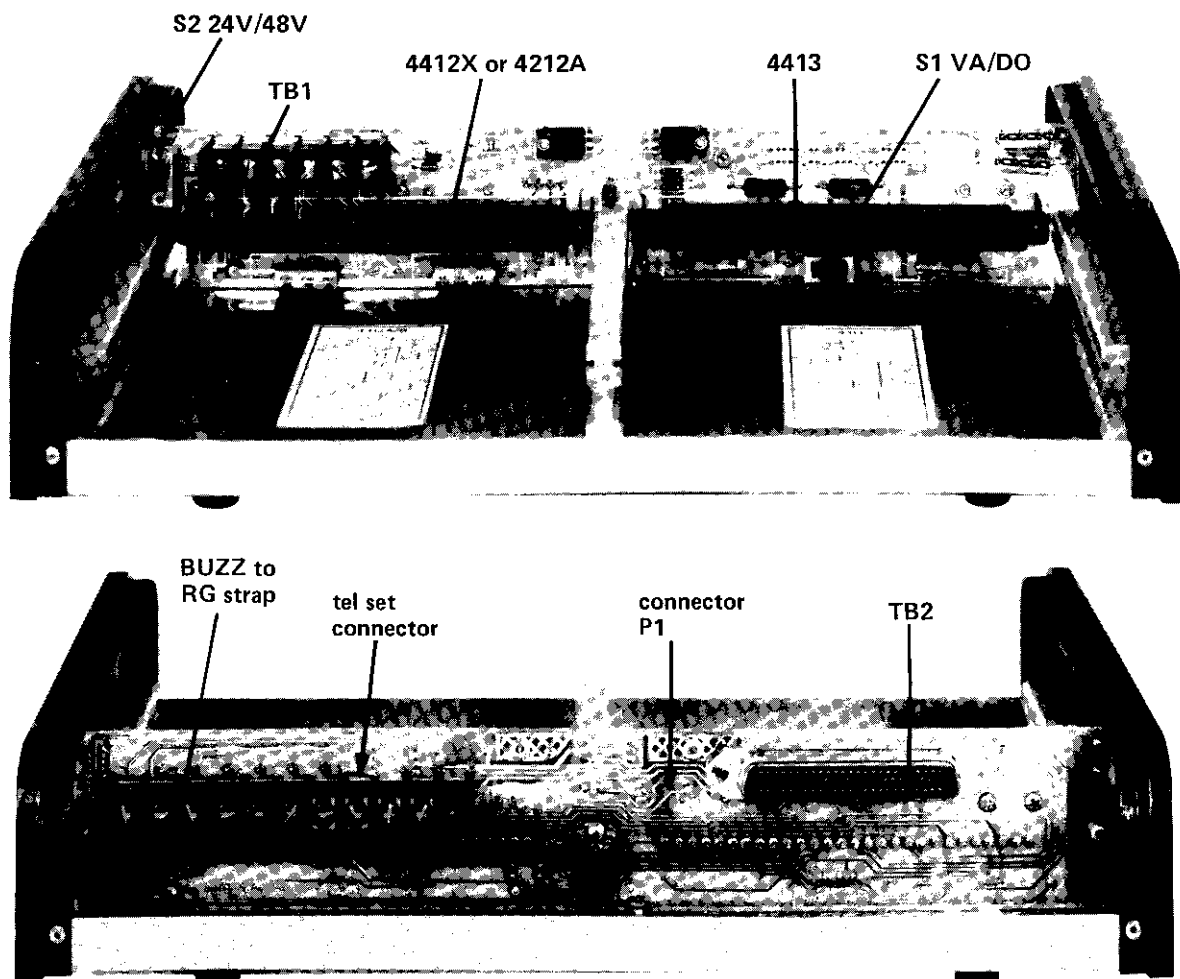
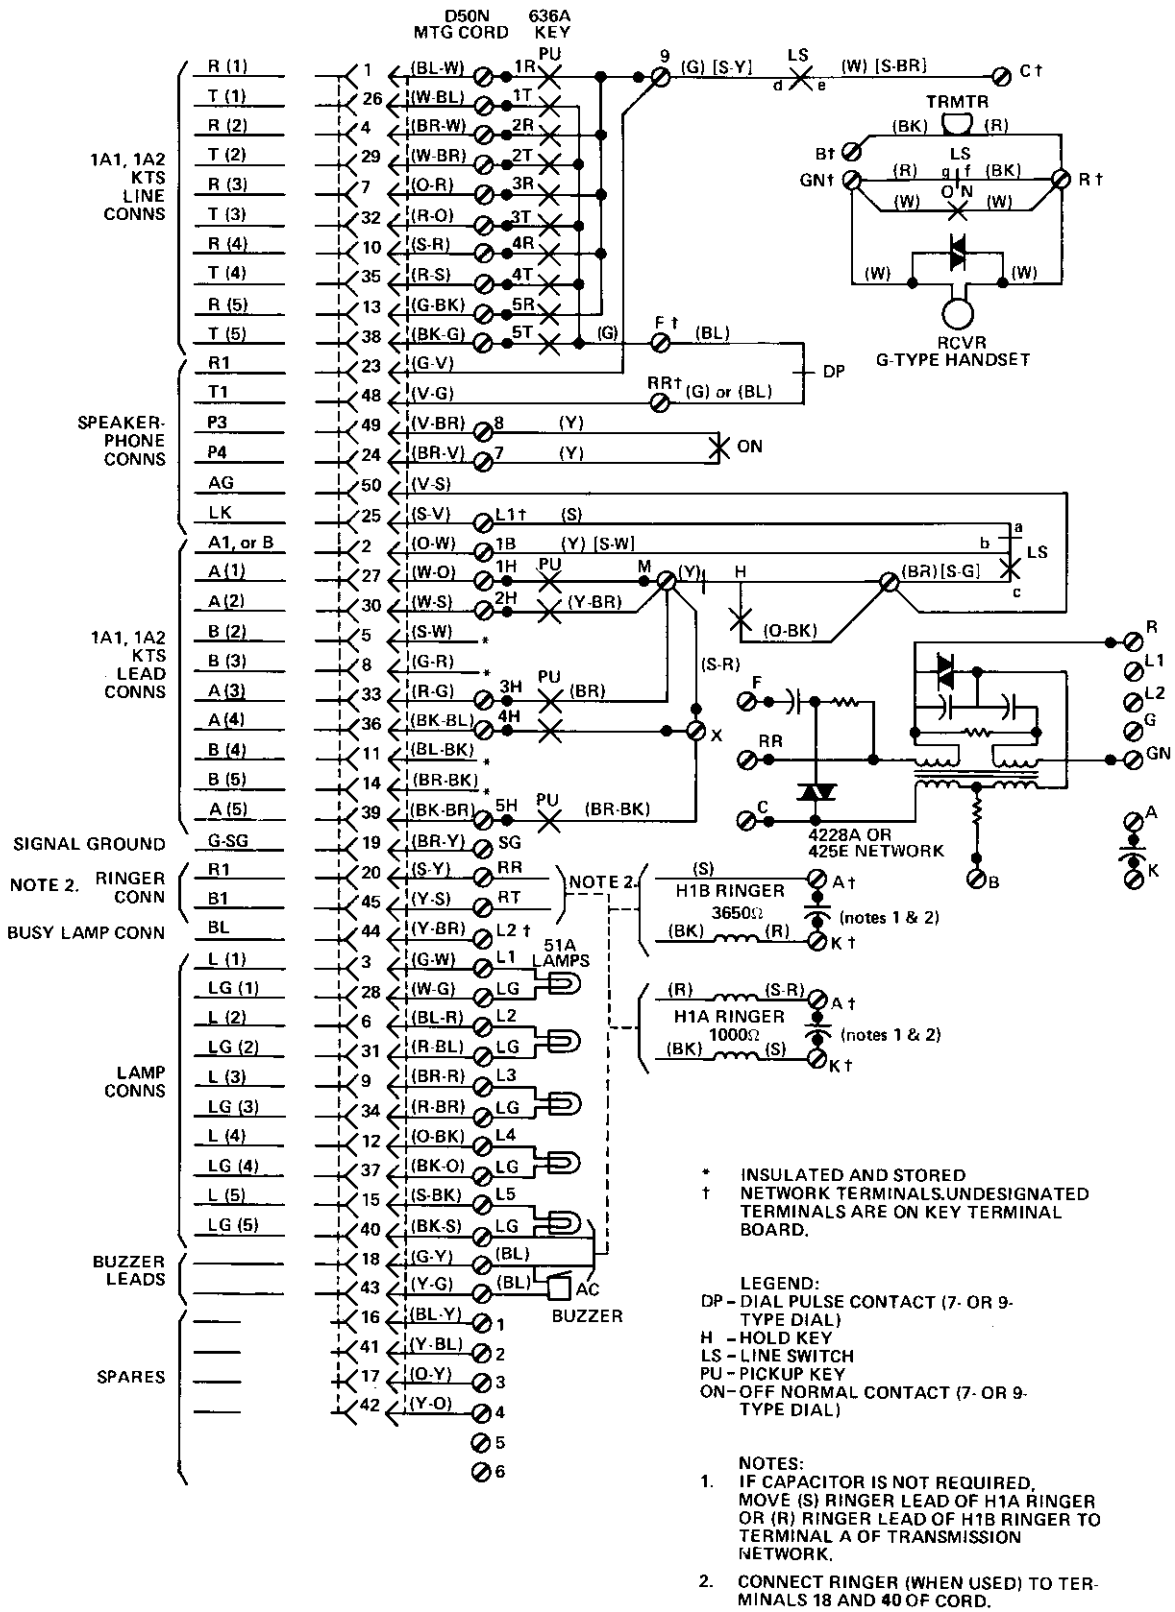

figure 3. 263B option switch and connector locations
figure 4. 565HK Telephone Set connections to 263B Assembly
3.05 Two option switches must be set before the 263B Assembly can be placed in service. The location of each switch is shown in figure 3. Switch *S1* selects either data-only or voice-alternate operation. For data-only operation (when only a 4412X or 4212A module is used), set *S1* to the *DO* position. For voice-alternate operation (when a 4413 module is used with one of the other DST modules), set *S1* to the *VA* position. Switch *S2* selects the voltage output to the modules housed in the 263B Assembly when power is supplied to the assembly from the optional 263B List 4 Transformer. To provide -24Vdc output, set *S2* to the *24V* position. To provide -48Vdc output, set *S2* to the *48V* position.
view of the printed circuit board showing the two terminal blocks (figure 3), and the telephone set wiring diagram (figure 4) as necessary. Lead designations for *TB1* are labeled on the reverse side of the printed circuit board above each terminal position. Lead designations for *TB2* are labeled below and adjacent to each terminal position.
3.17 The telephone set, normally a six-push-button key telephone (Western Electric 565HK or its functional equivalent), is connected to the 263B Assembly via the 25-pair connector on the 263B's printed circuit board. The telephone set must be wired to a mating 25-pair connector. The required telephone set connections are listed in table 2; refer also to section 5 and figure 4 as necessary. The fifth-line key must be arranged for nonlocking operation to implement manual ringdown.
Note: When GTE Automatic Electric, Stromberg-Carlson, or ITT key telephone sets (equivalents of Western Electric 565HK) are used with the 263B, modifications to the lamp and buzzer leads (e.g., changes to the lamp grounds in the ITT key telephone set) may be necessary for compatibility. Specifically, the ringer and buzzer leads of any key telephone set used with the 263B must be arranged as shown in figure 4, which represents the wiring arrangement for the Western Electric 565HK.